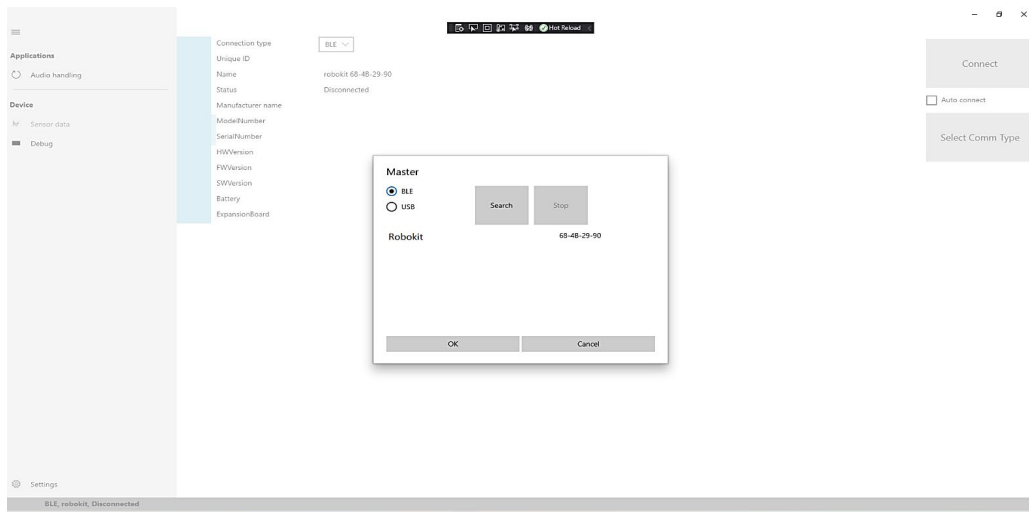

**Figure 18. Connect Device**
- Once the connection is established, device parameters are populated on the UI as shown in Figure 18.
After clicking Connect, wait a few seconds until the device parameters appear. If the **“Auto connect”** checkbox is checked, the selected device will connect automatically on the application restart. Refer to Figure 18.